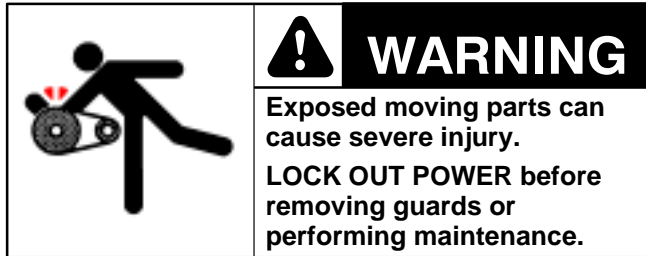

Figure 24
- Install belt (AQ of Figure 24) on conveyor. Lift conveyor slightly to avoid pinching belt on temporary support stands.